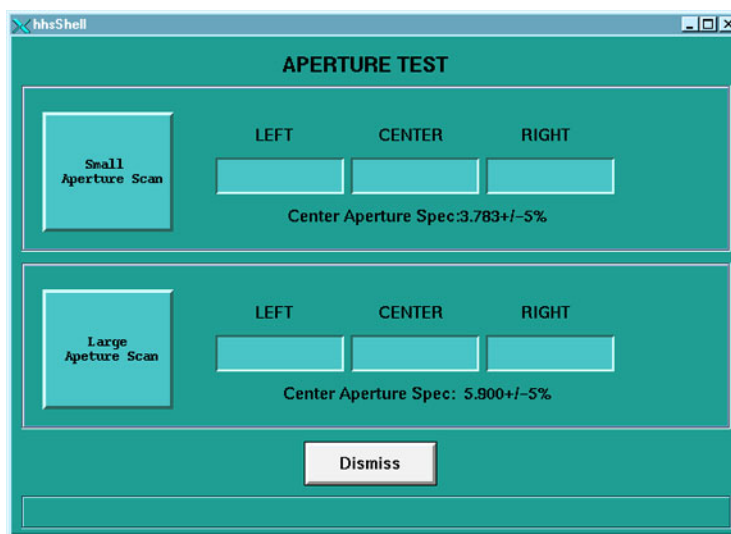

Figure 11-2 Collimator Aperture Test Screen
- 6.) Select SMALL APERTURE SCAN to display a scan protocol window, and start gantry activity (refer to Figure 11-2).
- 1.) Select LARGE APERTURE to display a scan protocol window, and start gantry activity (Refer to Figure 11-2).